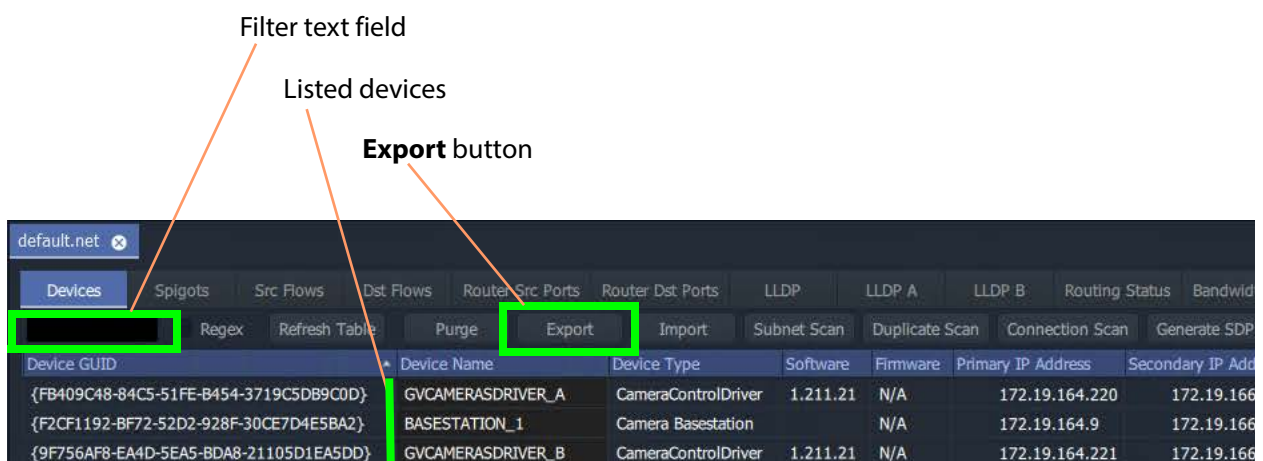

Fig. 19-30: Devices Tab - Export Button
- 1 Ensure that the filter text field is empty (see Figure 19-30).